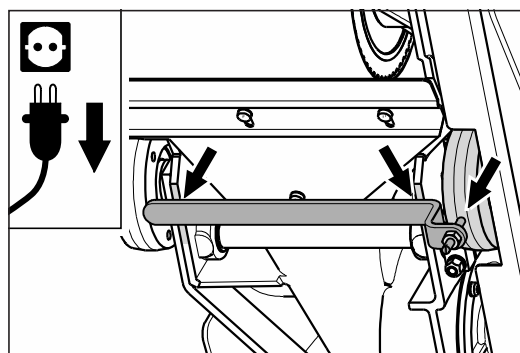
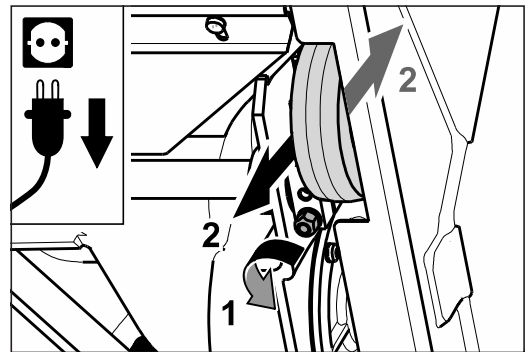

Fig. 50 Remove the current setting fixture from the right-hand wheel (seen from below).
Fig. 52 Release the screw on the right-hand wheel clamp (1) and adjust the wheel (2).
- 5 For setting, first take the actual position of the adjustable wheel using the setting fixture (see tool bag). Position the fixture against the machine housing in such a way that it rests not only against the machine housing on both sides, but also at the adjustable wheel (fig. 50). If necessary, turn the threaded pin of the setting fixture. To do this, release the nut of the setting fixture.
- 7 Release the tension nut at the wheel clamp of the adjustable wheel (fig. 52, 1) and place the setting fixture against the machine housing again (fig. 50).
- 8 Set the wheel in the required position by means of the setting fixture (fig. 52, 2) so that the wheel lining just still makes contact with the threaded pin when turning. Tighten the tension nut again.